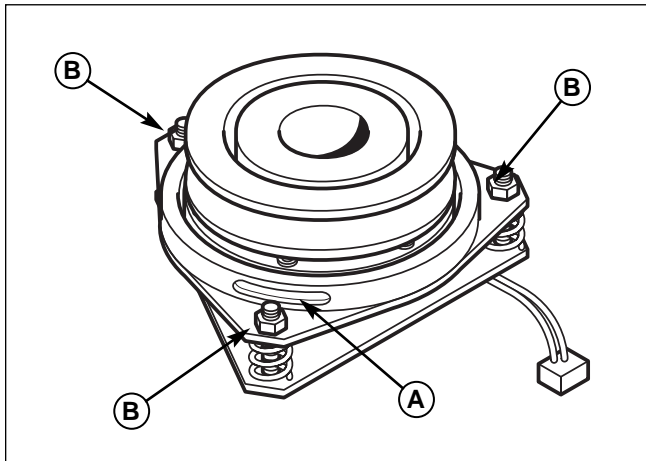

Figure 38. PTO Clutch Adjustment
2. See Figure 38. Note the position of the 3 adjustment windows (A) in the side of the brake plate and the nylock adjustment nuts (B).
4. Alternately tighten the adjustment nuts (B, Figure 38) until the rotor face and armature face just contacts the gauge.